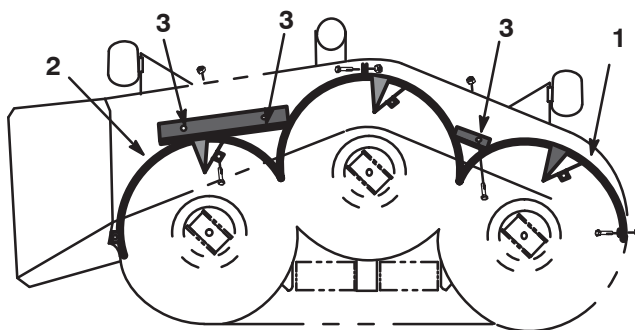

Figure 5
8. Place baffle assembly inside cutting chamber and align the mounting holes (Fig. 5).
9. Loosely install the baffle flanges to the housing with (3) 5/16–18 x 5/8” bolts, washers and 5/16-18 locknuts (Fig. 5). The bolt heads are to be positioned inside the mower deck and the washers are to be positioned next to the nuts.
10. Loosely install the rest of the baffle to the housing with (6) 5/16–18 x 5/8” bolts and 5/16-18 locknuts. The bolt heads are to be positioned inside the mower deck.